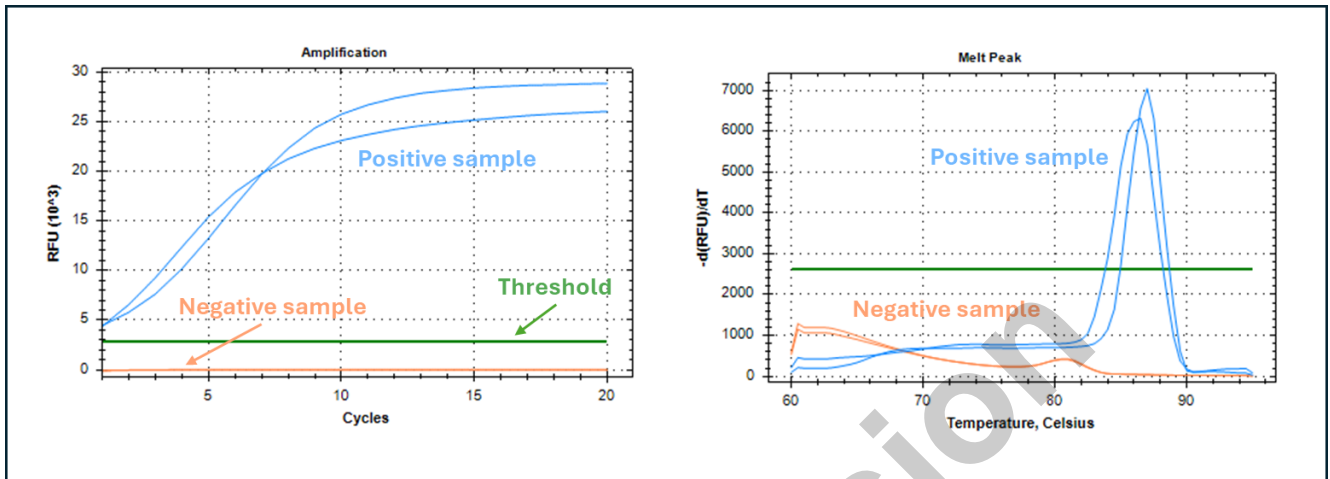

Figure 3: Schematic of amplification and Melt Peak; negative samples are highlighted in orange, positive samples with $C_t = "N/A"$ in blue.
not show a specific T_m value according to melting curve analysis (approx. $86 \pm 1,5$ °C) see Figure 3, discard the sample from the sequencing.
- If the sample does not show amplification (i.e., shows a Ct = "N/A"), check the run evaluation settings and verify that the reaction is not oversaturated (the sample signal would be above the threshold value from the start of the reaction). However, if such a sample does not show a specific T_m value according to the melting curve analysis ($86 \pm 1,5$ °C) see Figure 3, the reaction has failed.